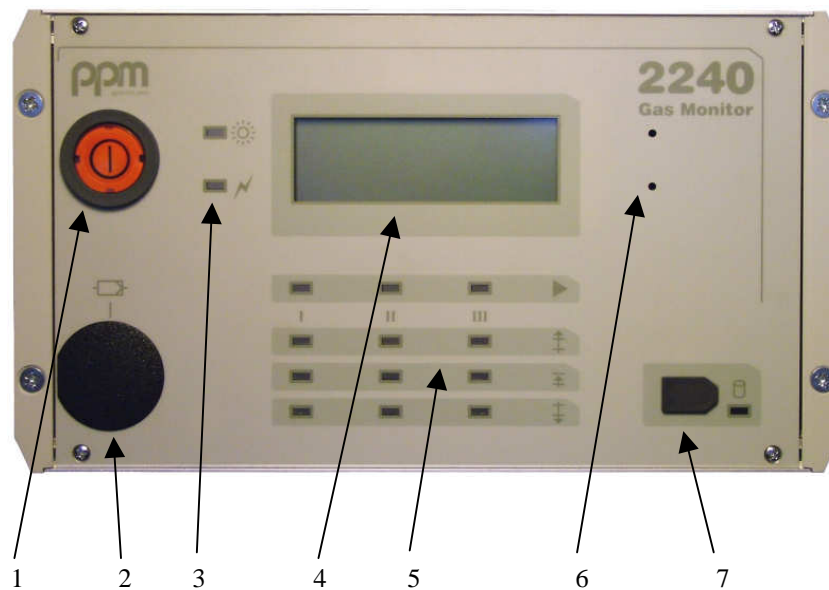

Fig. 1 Front View
At the right-hand side of the display two switches are to be found behind two small bores in the front plate. These switches may be activated with a simple slim screwdriver or with a similar tool (Fig. 1, item 4) in order to set for instance exact local time and calendar date. The setting of time and date is achieved by following steps: